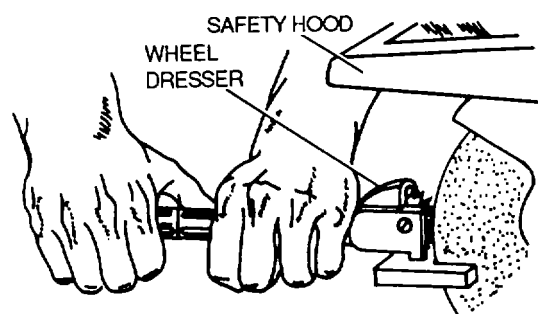

Figure 6-6. Dressing a Grinding Wheel
(1) *Dressing procedure.* To dress a wheel, proceed as follows (see figure 6-6):
(b) Set the wheel dresser on the tool rest as shown in figure 6-6 and bring it in firm contact with the wheel.